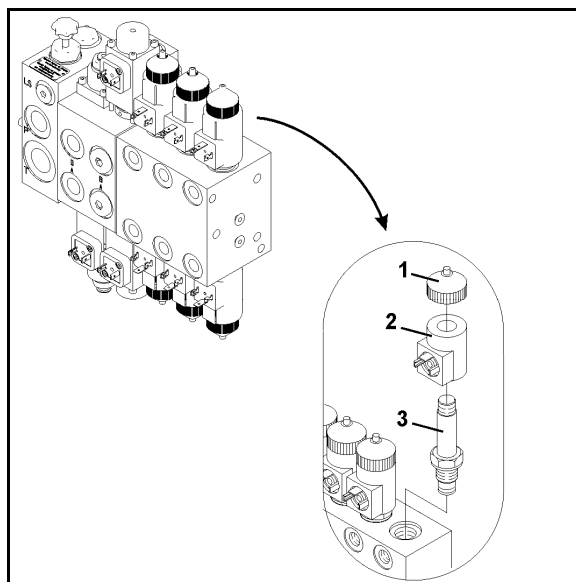

Fig. 99
1. Unscrew the magnetic cap (Fig. 99/1)
2. Remove the solenoid (Fig. 99/2)
3. Unscrew the valve rod (Fig. 99/3) with valve seats and clean with compressed air or hydraulic fluid.